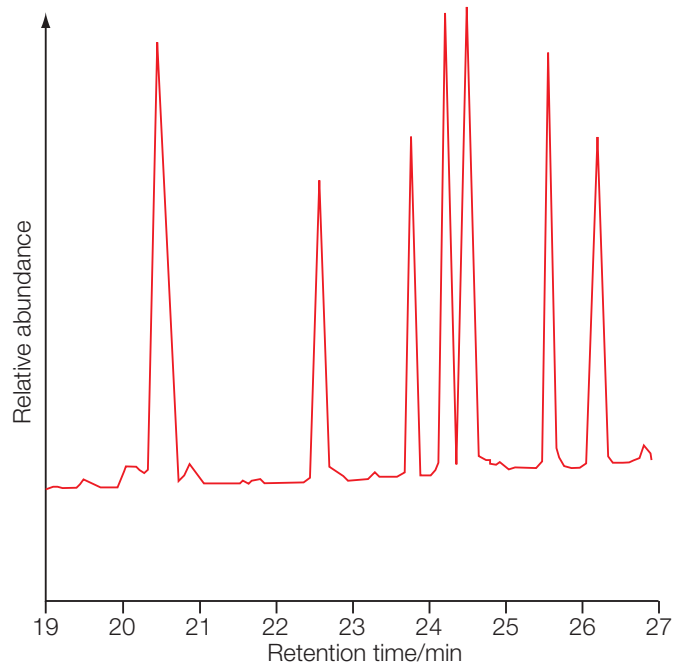
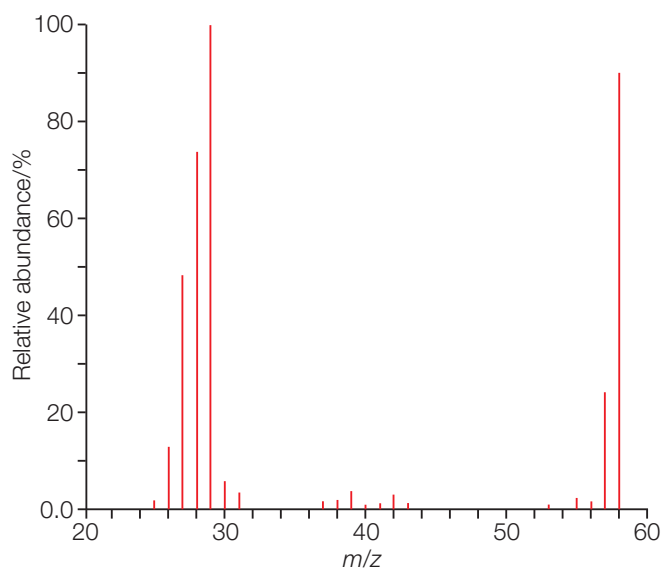

Figure 8.22 ▲
Figure 8.23 ▲
3 Gas chromatography can be used to analyse the chemicals formed during the production of beer. Figure 8.22 shows a GC chromatogram for a sample taken during beer-making. The instrument was fitted with a capillary column using a solid stationary phase. Table 8.3 gives the retention times for several relevant compounds.
- a) Suggest a reason for the trend in the retention times for the four primary alcohols. (2)
- b) Suggest a reason why 2-methylpropan-1-ol has a shorter retention time than butan-2-ol. (2)
- c) i) Use Figure 8.22 and Table 8.3 to identify the chemicals in the beer sample. (3)
- ii) How certain can you be of the answers you have given in part a)? Which peaks were hard to identify and why? (2)
- d) The mixture was analysed by GC–MS. Figure 8.23 shows the mass spectrum of the fifth peak to emerge from the GC column. Use this mass spectrum to decide whether this peak is butan-2-ol or propanal. Explain how you decide on your answer. (3)
- e) How does the chemical with the shortest retention time form during brewing? (2)